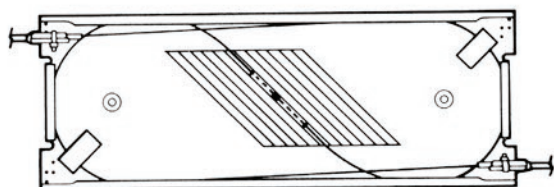

FIGURE 10
8.07 Position each splice into the grooved splice block. Use a small amount of RTV sealant (if required) to secure the splice in place. Secure the fiber slack inside the splice tray with the felt adhesive strips, Figure 10.